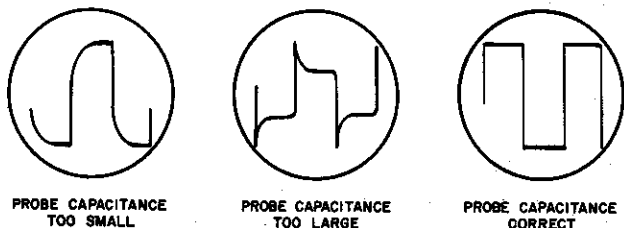

FIGURE 4. PROBE ADJUSTMENT WAVEFORMS
SEE FIGURE 4:
2. Disconnect the generator from the oscilloscope. Connect the probe to the vertical input of the oscilloscope. Rotate the probe head so that LO-CAP is visible in the slot on the side of the probe. Pull out the probe head until the trimmer adjustment is just barely accessible from underneath the shield. Connect the output of the generator to the probe tip and ground lead. It may be necessary to increase the output of the generator, due to the attenuation of the probe. Using an insulated screwdriver, turn the trimmer adjustment until the square-wave appears the same as when it was connected directly to the oscilloscope. See Figure 4.